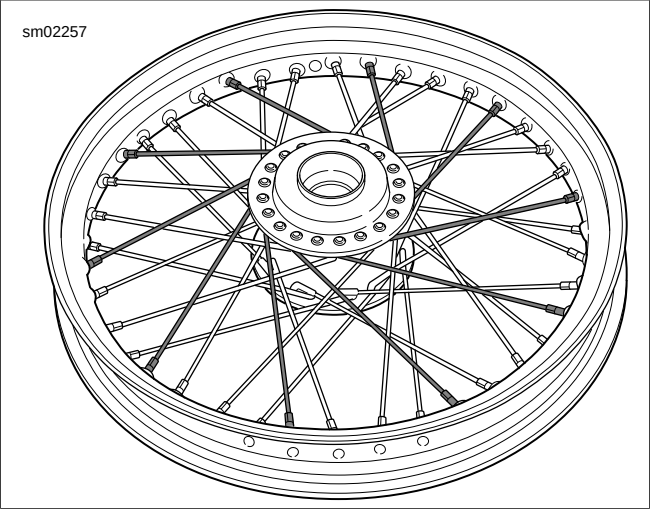

Figure 2-43. Completed Spokes: Top Flange Outer
19. See Figure 2-43. Verify spoke reaches spoke nipple and secure spoke by hand. Follow pattern to complete top flange outer spokes (short head).